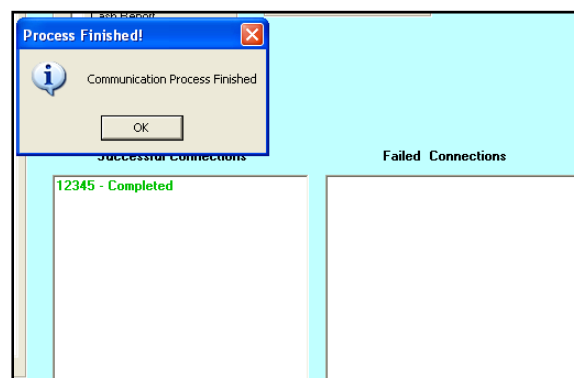

Fig. 8.10
- 6) When the connection process is complete, the status of the procedure is displayed. All successful transmissions will be displayed in green lettering in the Successful Connection field (Fig. 8.10). All unsuccessful transmissions will display an error code in red lettering in the Failed Connections field. To view all retrieved information, select the Reports menu and then select Information Retrieved. Please refer to Section 9 of this manual for more information on the Reports Menu.